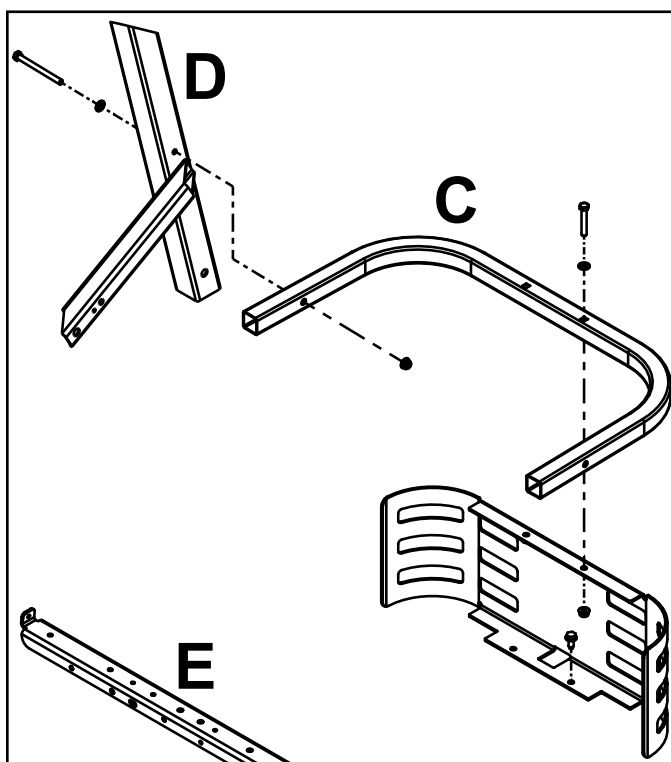

Fig. 035
3. Remove the (2) bolts that secure the hydro expansion tank (A) to the seat support.
4. Remove the (1) fastener securing the fuel tank retaining rod (B) to the seat support.
5. Remove the (2) thread-forming bolts that secure the rear guard tube (C) to the seat support (E). OR Remove the bolts / nuts securing the rear engine guard to the ROPS frame (D) (Fig. 035).